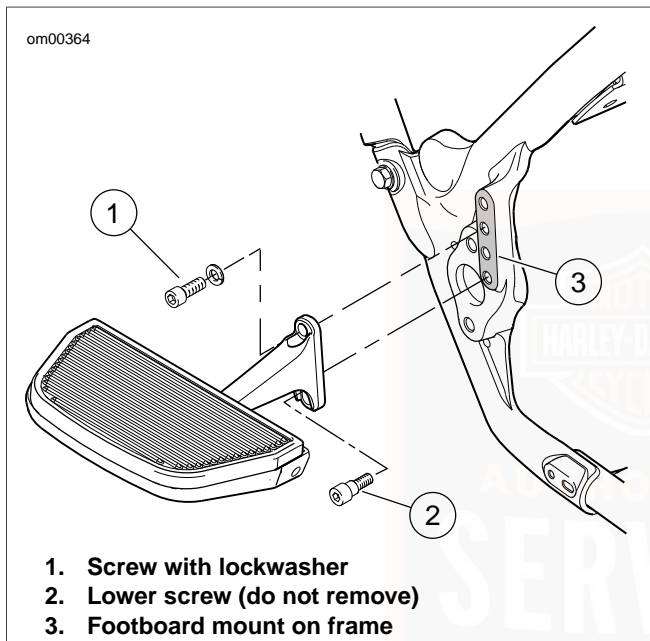

Figure 23. Passenger Footboard
1. See Figure 23. Remove socket screw with lockwasher from top of footboard bracket. Do not remove lower screw.